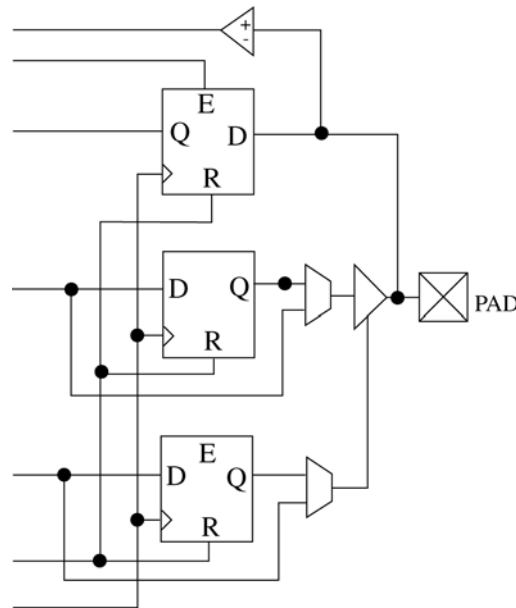

Figure 5: Eclipse I/O Cell
The bi-directional I/O pin options can be programmed for input, output, or bi-directional operation. As shown in Figure 5, each bi-directional I/O pin is associated with an I/O cell which features an input/feedback register, an input buffer, output/feedback register, three-state output buffer, an output enable register, and two (2) two-to-one multiplexers.